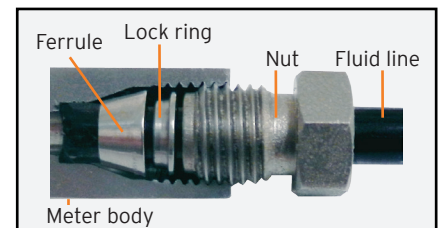

Figure 1. Compression Fitting
**Model P001 Compression Fittings:** The P001 compression fittings are based on Swagelok style ferrules (see fig. 1). Do not use other manufacturer's parts because the sealing angle may not be the same. Fitting kits contain detailed instructions and are shipped with every meter (spares are available: P001-2-040 for 6mm and P001-2-042 for 1/4 " tubing). Always select tubing grades that meet or exceed your system pressure requirements. If using flexible tubing, always install a tubing insert to provide the stiffness required for the compression ferrules to seal (such as Swagelok SS-405-2, SS-405-03 or SS-405-170). To reuse a tube fitting first mark the nut and meter and upon re-installing tighten enough to align the marks then tighten a quarter turn farther.